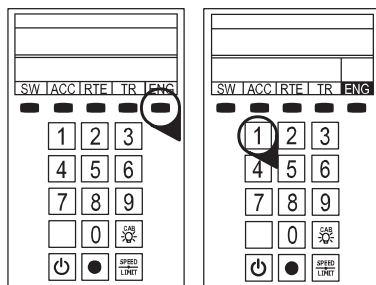

Figure 1. LEGACY engine selection
4. **As illustrated in Figure 1, press ENG and 1 (or your selected ENG ID#) to address the locomotive set with your LEGACY CAB-2 Remote Controller.**